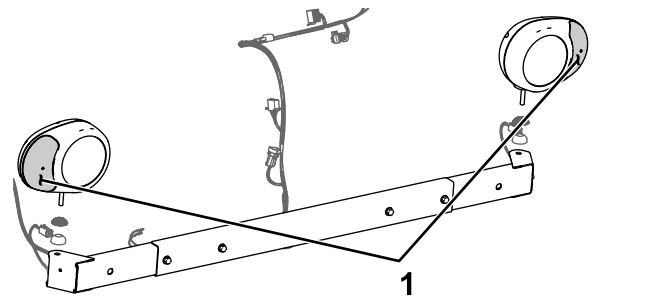

Figure 13
1. Align the left and right worklight assemblies with the amber lenses outward as shown in Figure 13.